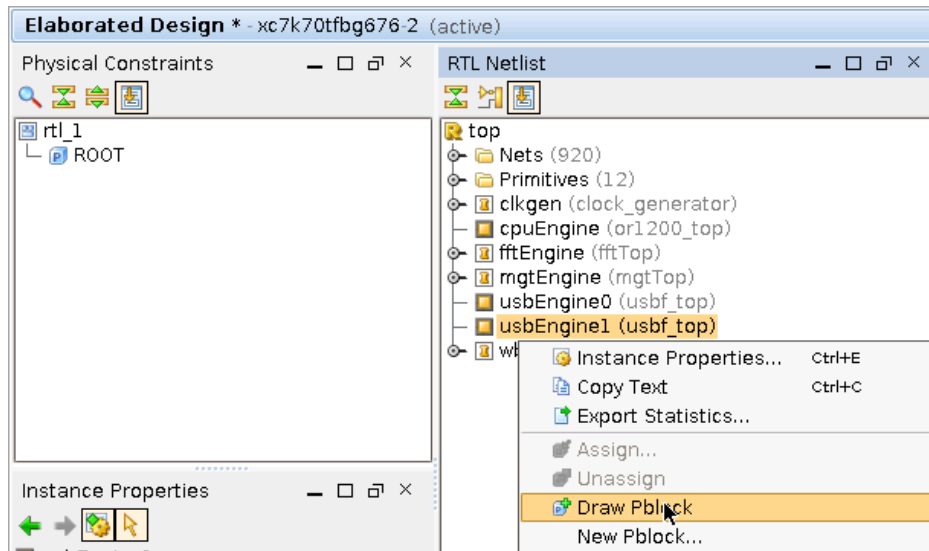

Figure 3: Selecting the Draw Pblock Tool
5. Click the top-left corner of the device where the CLBs start, and drag down and to the right to create a rectangle covering most of the top-left quadrant, as seen in Figure 3.